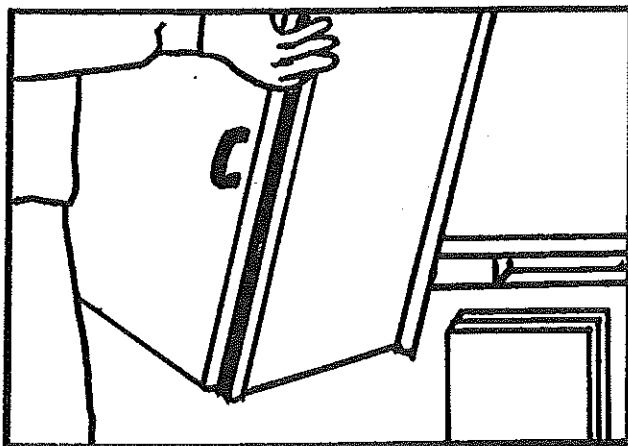

FIGURE 16
21. Grasp the handle located on the top of the wardrobe and raise the assembly until it is vertical. See Figure 16.